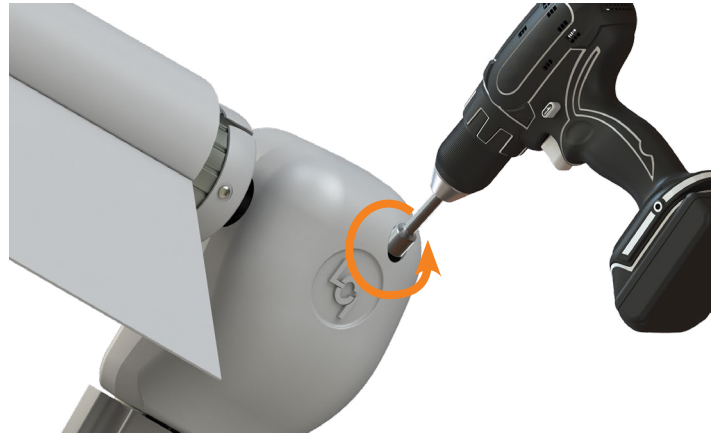

Fig.34
2. Using a $\frac{7}{16}$ " socket and cordless or electric drill or screw gun, spin the manual override nut counterclockwise to retract the awning (**Fig.34**).